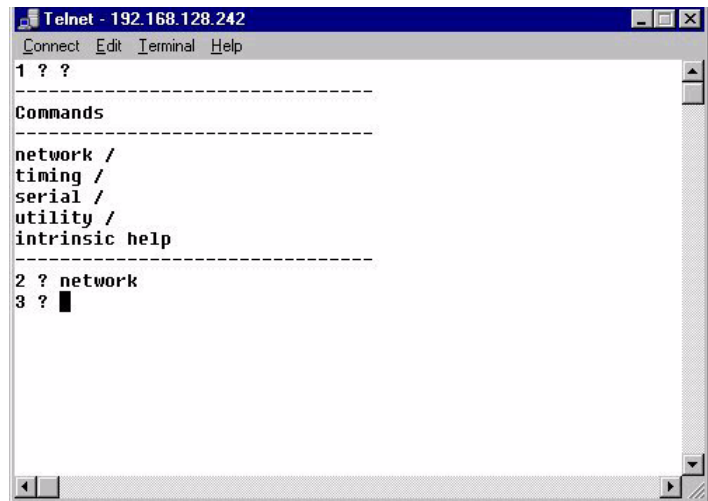

Figure 2-3 (Shell) TymServe Interface
- 9. The TymServe interface displays (see Figure 2-3).